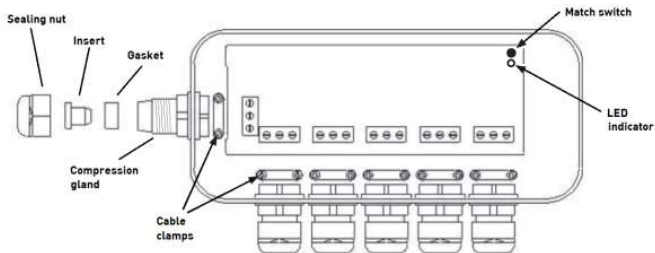

Fig. 1
- Unscrew the sealing nut from the compression gland (see Fig. 1) and fit it over the supply cable
- Press and release the "MATCH" switch on the circuit board (see Fig. 1), the green LED indicator will flash